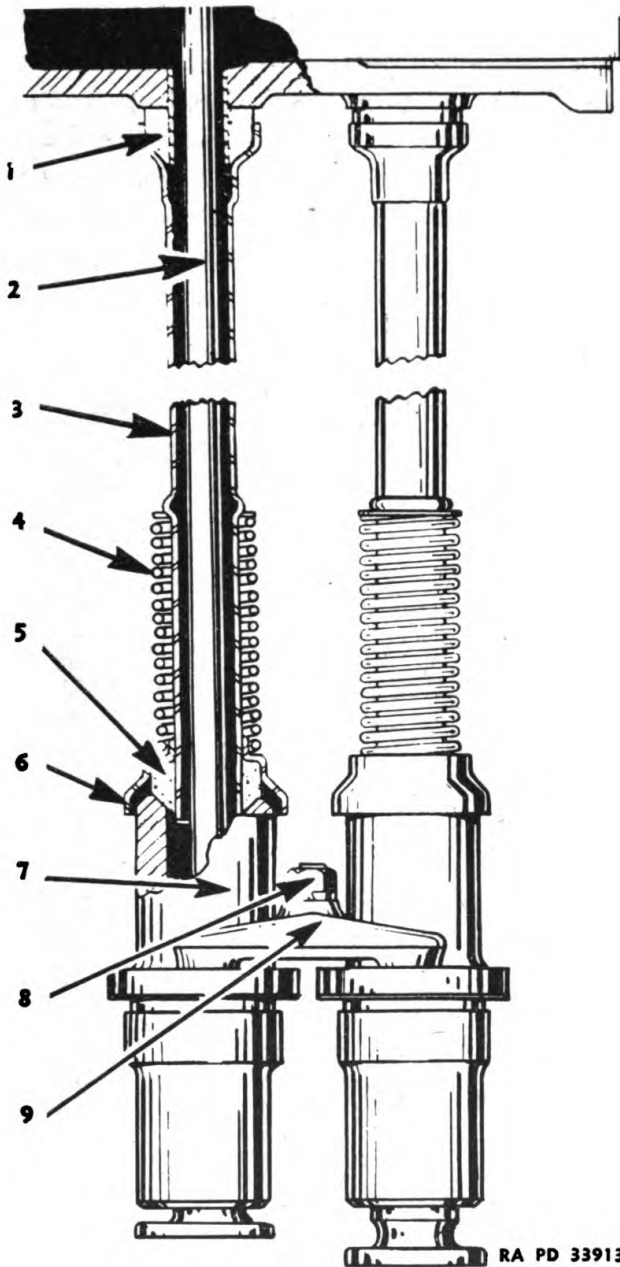

FIGURE 24.—Valve lifter—schematic.
(2) To narrow the seats, a 15° stone or a fly cutter can be used. By using a fly cutter the size of the hole, cut around the valve seat can be limited leaving sufficient material for the installation of a valve seat insert should some accident occur making that work necessary.
d. Valve lifters.—The valve lifters (fig. 24) can be removed after removing push rod (2), tube (3), retainer (6), and clamp (9).
(1) The push rod tubes can be installed after the cylinder heads are in place. Install the seal (1) on the ferrule of the cylinder head.